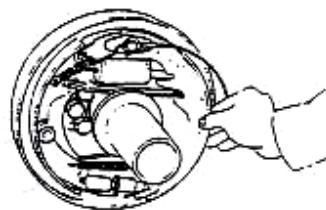

Figure 2-14
- (4) Remove the main and auxiliary brake shoes. And also remove the regulator and the regulator spring. See figure 2-14